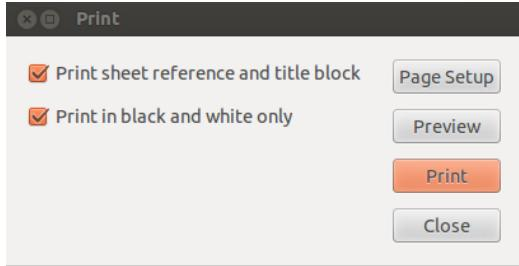

Figure 5.2: Print options
- (g) Print - Access to print menu (See Figure 5.2).